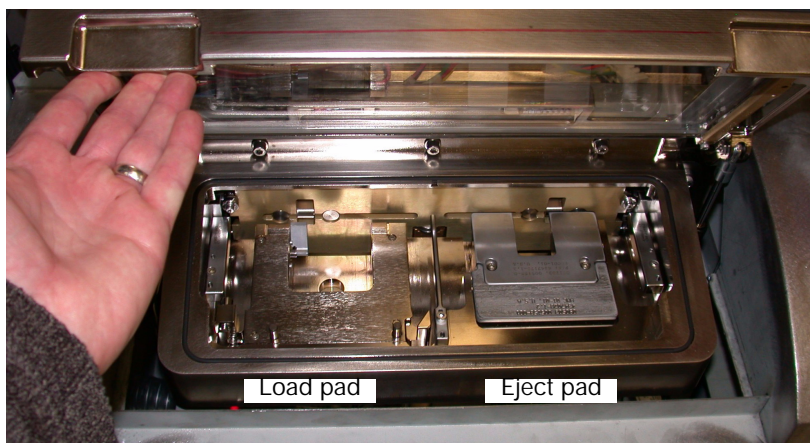

Figure 3-4 Sample loading chamber
1. Open the sample loading chamber (Figure 3-4).